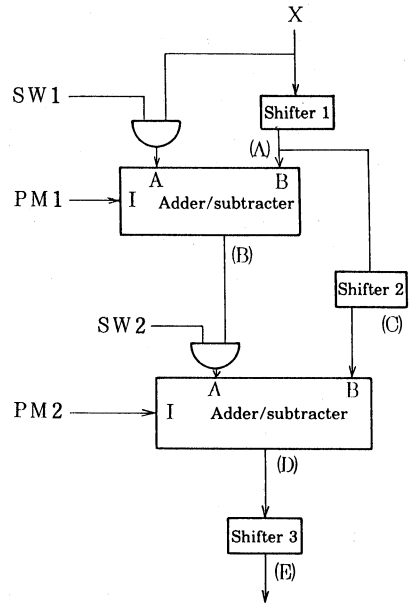

Figure 12 Divider block diagram
Figure 12 shows the block diagram of a divider.
Data at (A), (B), (C), (D), and (E) in Figure 12 are: